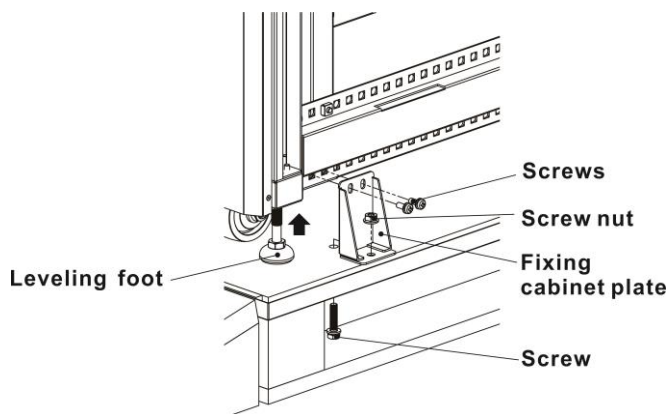

Figure 2-4
- Remove 4 fixing cabinet plates and loosen leveling feet by rotating them counterclockwise. Then, move the cabinet from the pallet. Refer to Figure 2-4.